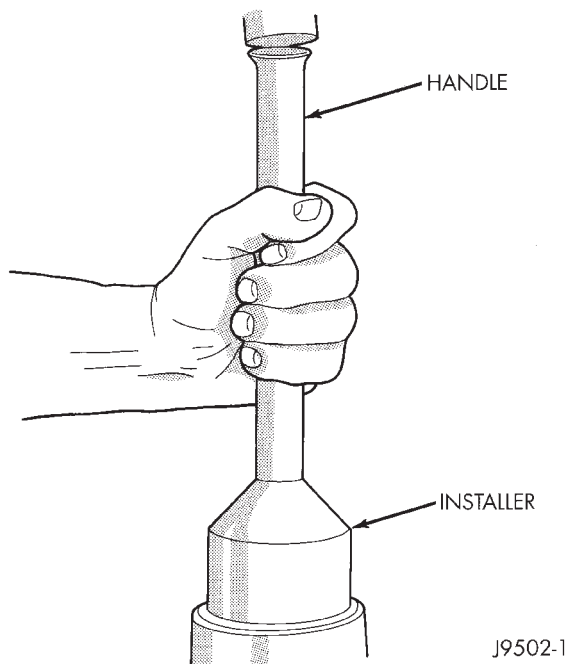

Fig. 29 Pinion Seal Installation
(4) Install pinion front bearing and oil slinger, if equipped.
(5) Apply a light coating of gear lubricant on the lip of pinion seal. Install seal with Installer D-187-B and Handle C-4171 (Fig. 29).